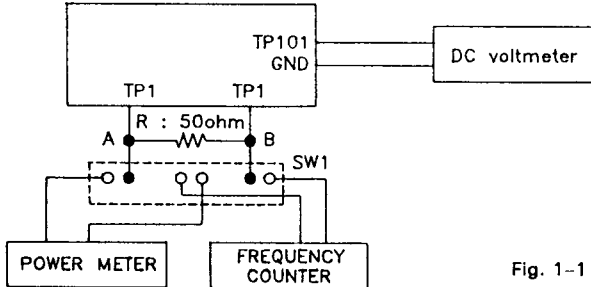

Fig. 1-1
- The connection of unit is shown in Fig.1-1.